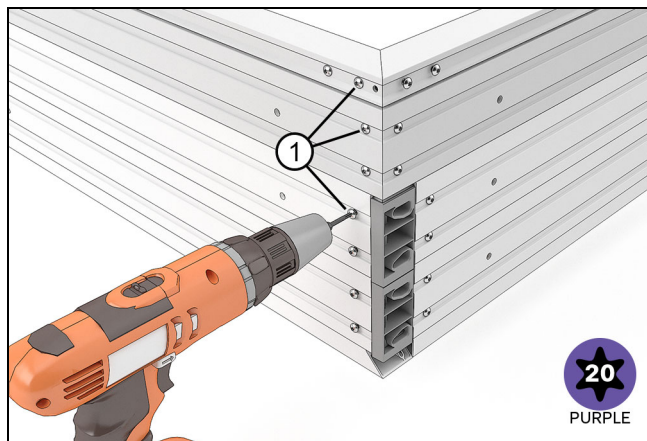

Figure 46
4. Use the #8x 1/2" screws to fasten the head jamb to the key. See Figure 46.